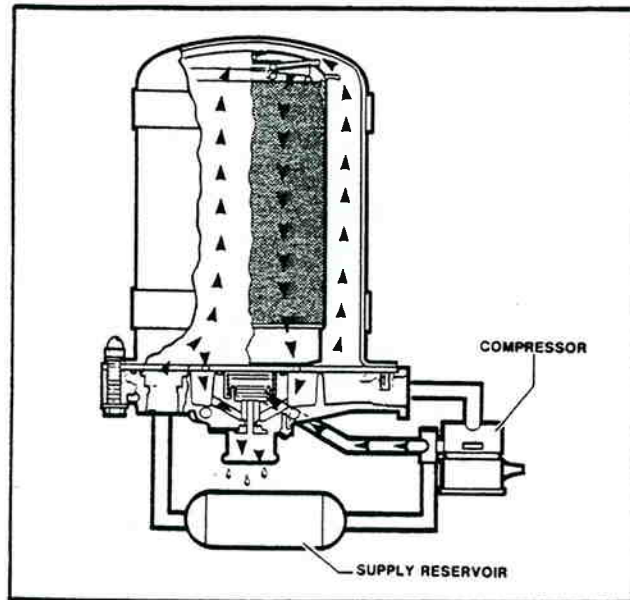

Figure 4-58. Purge Cycle Diagram.
**Purge Cycle** — Refer to figure 4-58. When air brake system pressure reaches the cutout setting of the governor, the compressor unloads (air compression stops) and the purge cycle of the air dryer begins. The line connecting the governor unloader port to the AD-4 end cover control port is pressurized when the governor unloads the compressor. Air pressure at the AD-4 end cover control port is also present on the purge valve piston. The purge valve piston moves in response to air pressure causing the purge valve to open to atmosphere.